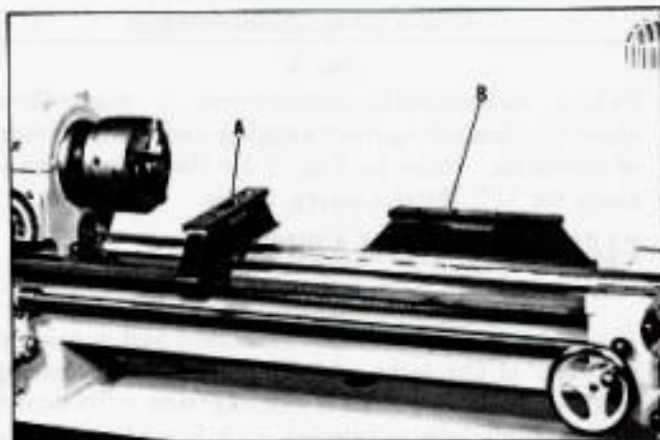

Fig. 5.
2. Place a precision spirit level (A) Fig. 5, squarely across the V-ways at the headstock end of the bed.
6. Place the level (B) Fig. 5, lengthwise on the center of the bed and shim until bubble is approximately centered.